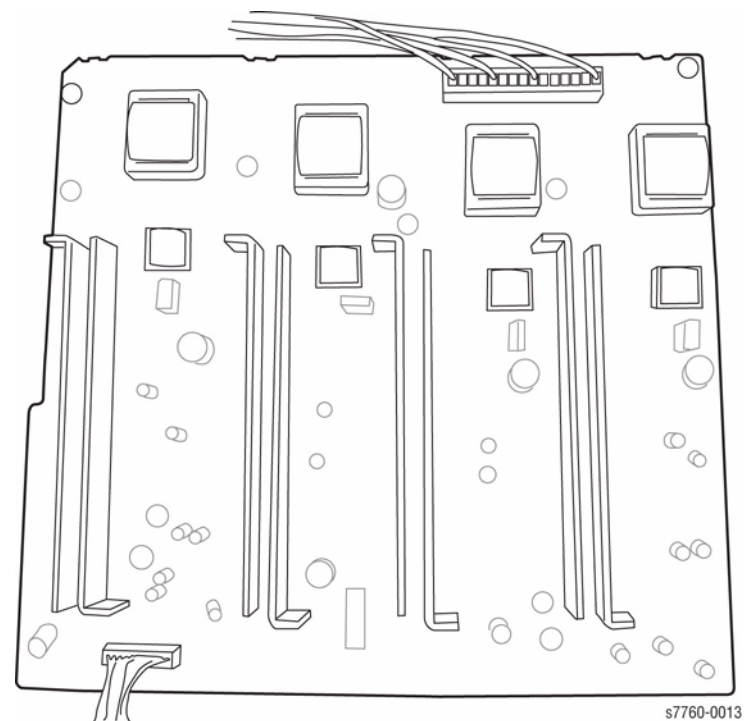

Figure 2 BCR T11 HVPS (facing the front of the Printer)
- BCR T11 HVPS is the power supply facing toward the rear of the Printer (Figure 2).